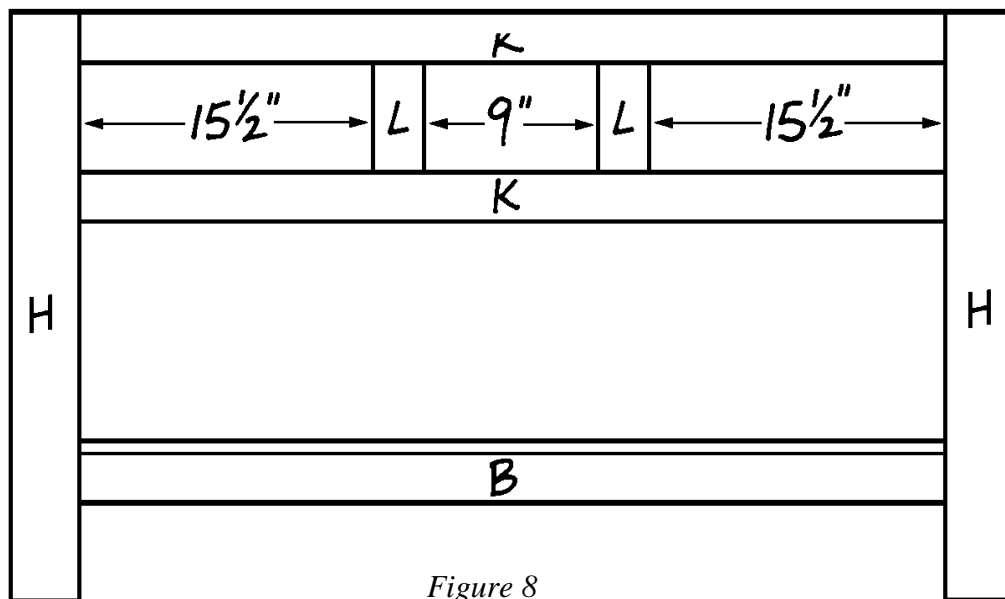

Figure 8
1. Cut two top/bottom trim pieces (K) from 1 x 3 pine, each measuring 45" long.
2. Glue one top/bottom trim (K) to the top front of the assembly, over the long top support (D), as shown in *Figure 8*. Secure the trim with 1-1/4" screws spaced about 6" apart.
3. Repeat Step 2 to attach the remaining top/bottom trim (K) to the assembly, over the lower long top support (D).
4. Cut two 4-1/4"-long vertical trim pieces (L) from 1 x 3 pine.
5. Using *Figure 8* as a guide, glue one vertical trim (L) between the two top/bottom pieces (K), 15-1/2" from the left leg (H). Insert two 1-1/4" screws through the vertical trim (L) into the ends of the long drawer guides (F).
6. Repeat Step 5 to attach the remaining vertical trim (L) on the right side, as shown in *Figure 8*. This will leave a 9"-wide opening between the two vertical trim pieces (L).